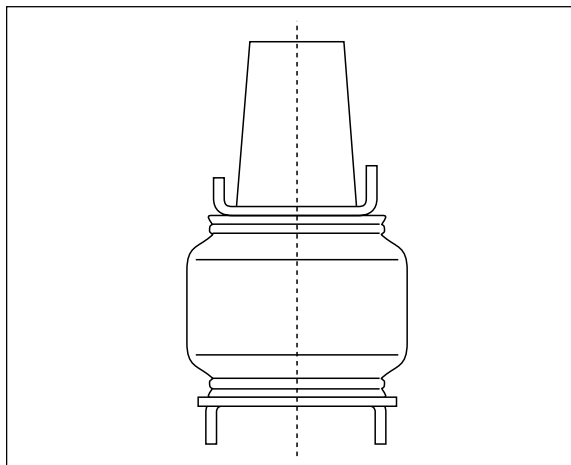

Figure 9
6. Align the upper bracket forward or back, ensuring that the upper and lower brackets are lined up evenly with the bellows (Figure 9).